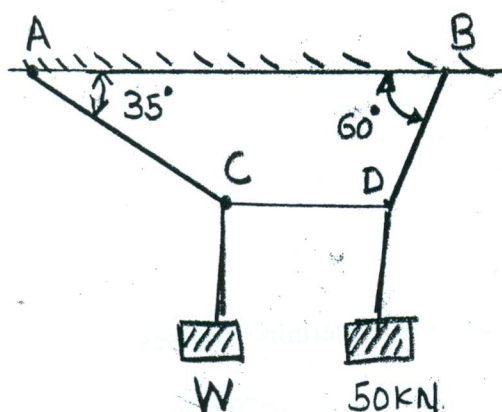

Fig. 3
Q.2 (A) Explain stress-strain curve for mild steel with neat sketch. 05
(B) A cord supported at A and B as shown in Fig.3. Determine value of load at C so that CD remains horizontal. 05